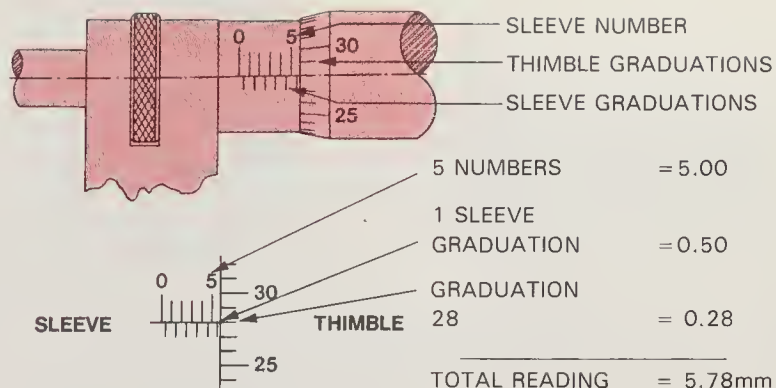

Fig. 6-13. Metric micrometer is read like a conventional mike. However, note metric values for sleeve and thimble. (Starrett)
1. Read the **SLEEVE NUMBER**. Each sleeve number equals 1.00 mm (2 sleeve numbers = 2.00, 3 = 3.00). See Fig. 6-13.
This will give you the metric micrometer reading, as in Fig. 6-13.